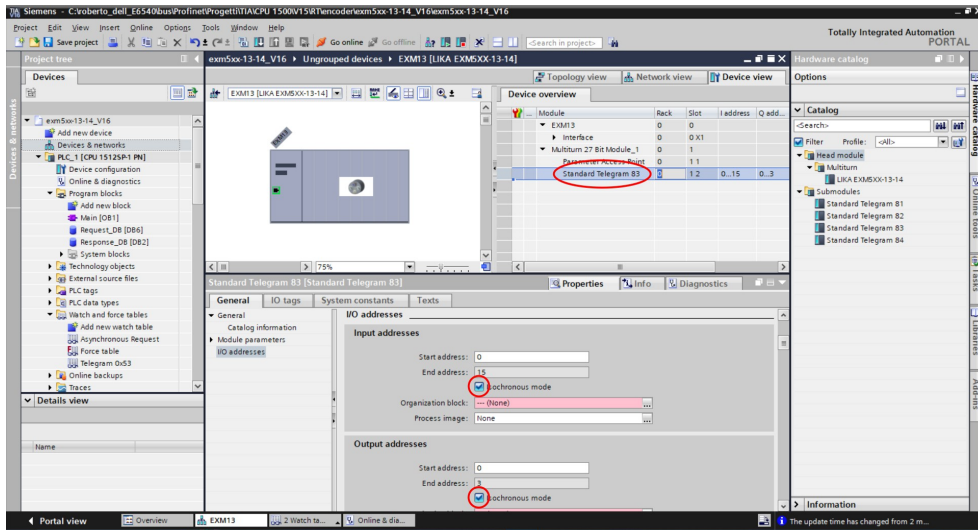

Figure 53 - Setting the isochronous mode for the telegram
- now in the **Device overview** working area select the telegram you have installed (Standard Telegram 83 in Figure 53);